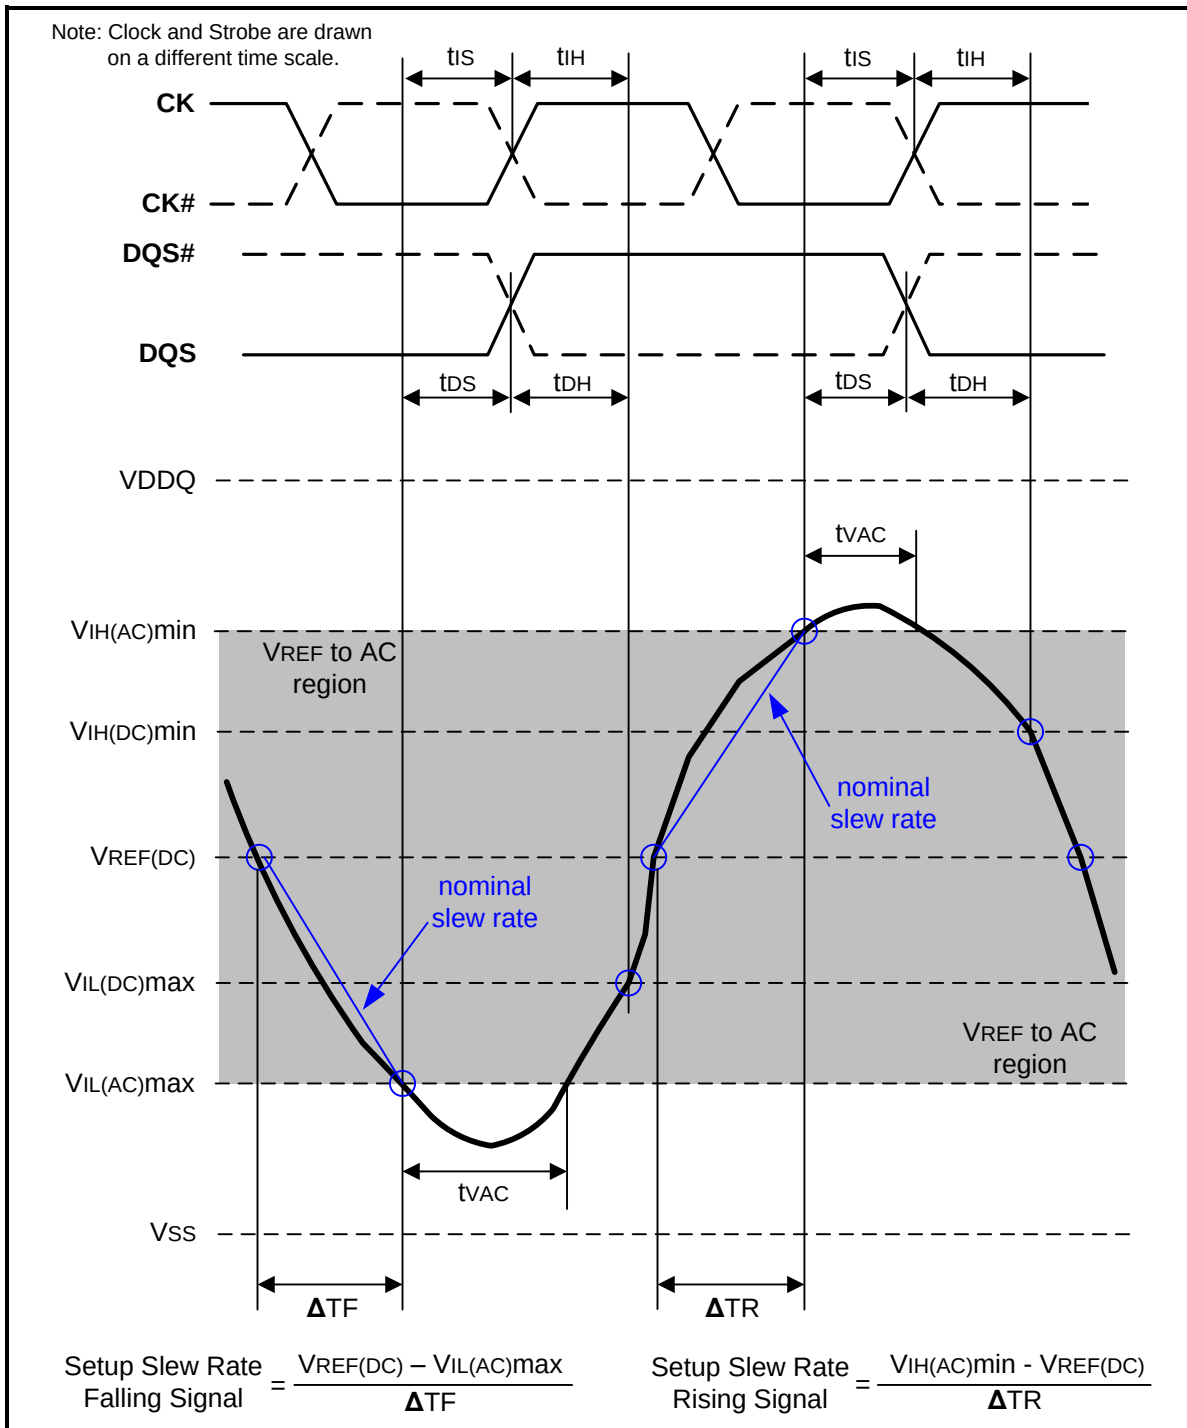
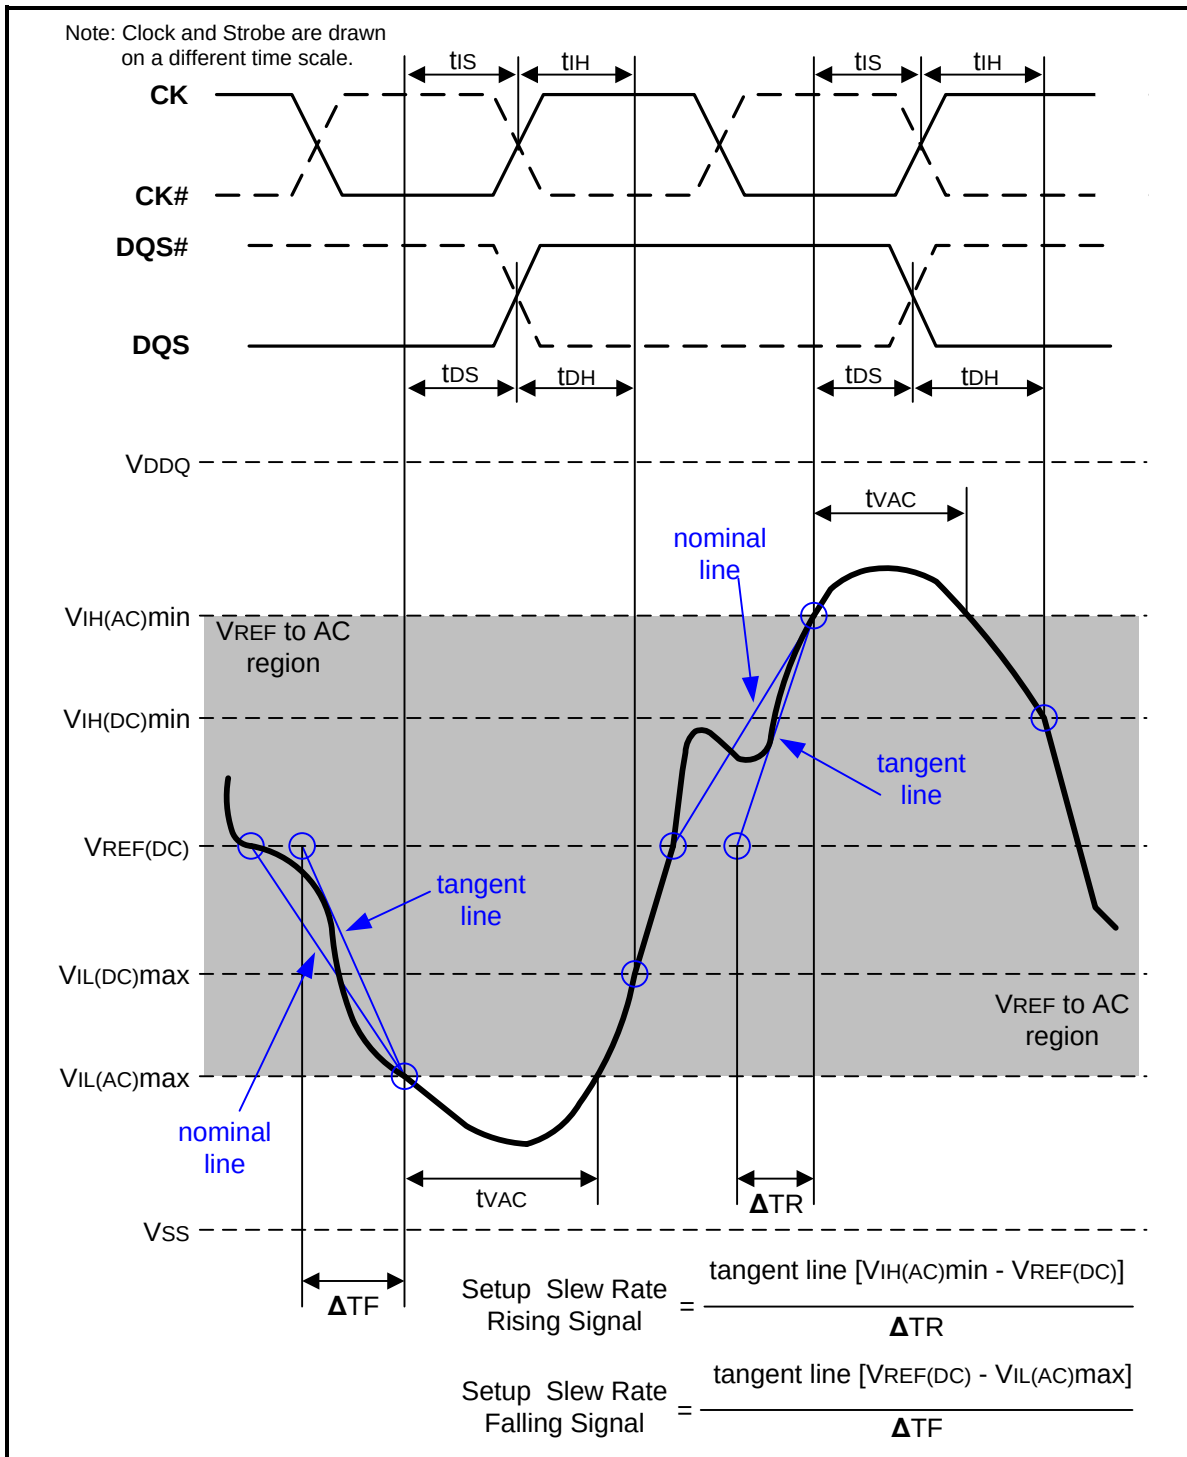

Figure 107 – Illustration of nominal slew rate and tvac for setup time tds (for DQ with respect to strobe) and tis (for ADD/CMD with respect to clock)
Figure 109 – Illustration of tangent line for setup time  $t_{DS}$  (for DQ with respect to strobe) and  $t_{IS}$  (for ADD/CMD with respect to clock)
Setup ( $t_{IS}$ ) nominal slew rate for a rising signal is defined as the slew rate between the last crossing of  $V_{REF}(\text{DC})$  and the first crossing of  $V_{IH}(\text{AC})_{\text{min}}$ . Setup ( $t_{IS}$ ) nominal slew rate for a falling signal is defined as the slew rate between the last crossing of  $V_{REF}(\text{DC})$  and the first crossing of  $V_{IL}(\text{AC})_{\text{max}}$ . If the actual signal is always earlier than the nominal slew rate line between shaded 'VREF(DC) to AC region', use nominal slew rate for derating value (see Figure 107). If the actual signal is later than the nominal slew rate line anywhere between shaded 'VREF(DC) to AC region', the slew rate of a tangent line to the actual signal from the AC level to  $V_{REF}(\text{DC})$  level is used for derating value (see Figure 109).
Setup (tDS) nominal slew rate for a rising signal is defined as the slew rate between the last crossing of VREF(DC) and the first crossing of VIH(AC)min. Setup (tDS) nominal slew rate for a falling signal is defined as the slew rate between the last crossing of VREF(DC) and the first crossing of VIL(AC)max (see Figure 107). If the actual signal is always earlier than the nominal slew rate line between shaded 'VREF(DC) to AC region', use nominal slew rate for derating value. If the actual signal is later than the nominal slew rate line anywhere between shaded 'VREF(DC) to AC region', the slew rate of a tangent line to the actual signal from the AC level to VREF(DC) level is used for derating value (see Figure 109).